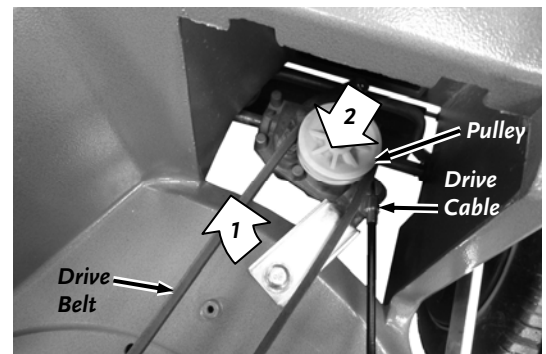

Figure 20
- Slide the Transmission Bracket over (step 1) so the Transmission can be tilted forward (step 2) to allow the Belt to be removed from the pulley (**Figure 20**).